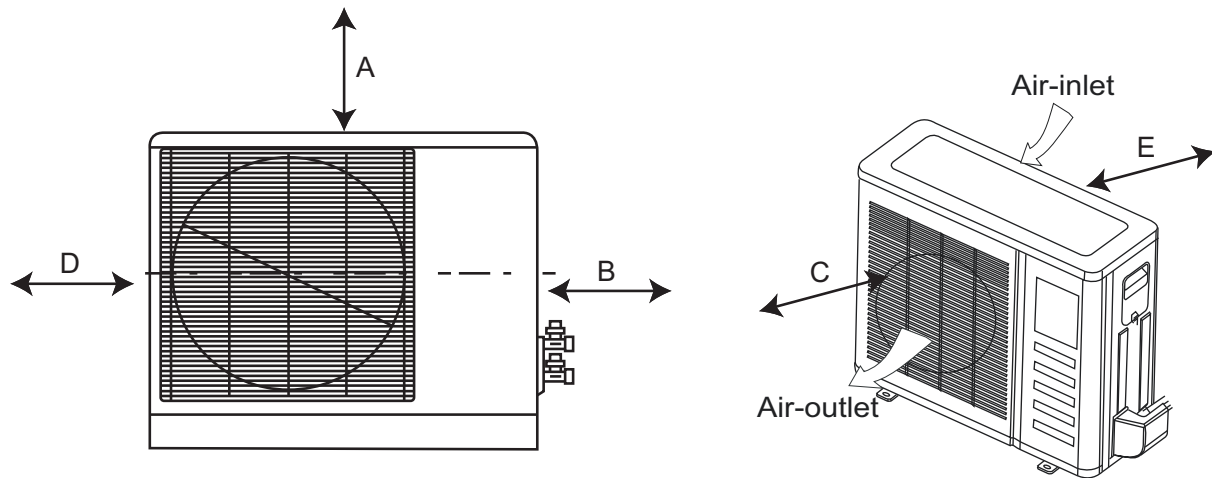

Fig. 10 — Clearances
- A location with appropriate clearances as outlined (See Fig. 10 — on page 10).